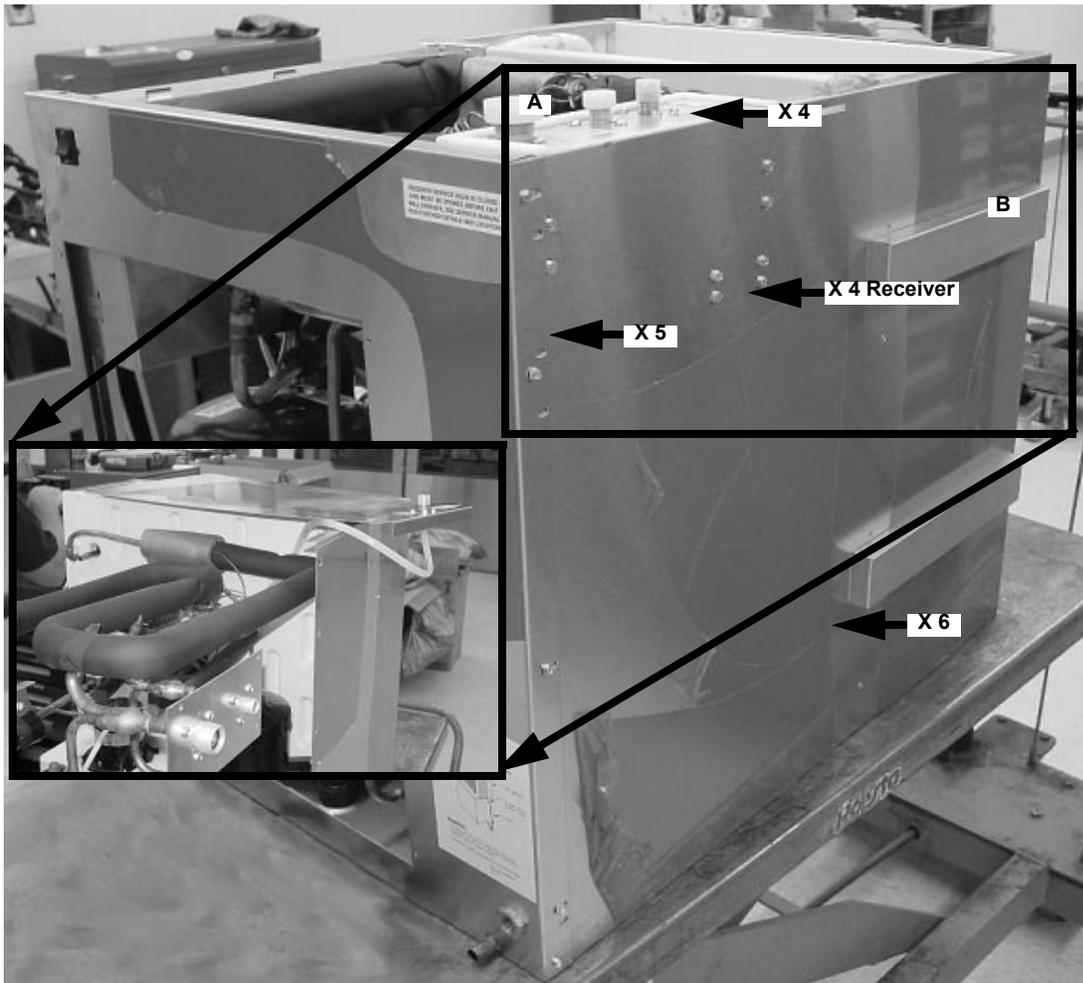

FIGURE 20
Remove the 4 screws on the back panel at the receiver bracket (FIGURE 20).
19. Clip the wire tie securing the internal water line (B) to the suction line assembly. Remove the 6 screws attaching the back panel to the left wrap panel (FIGURE 20).